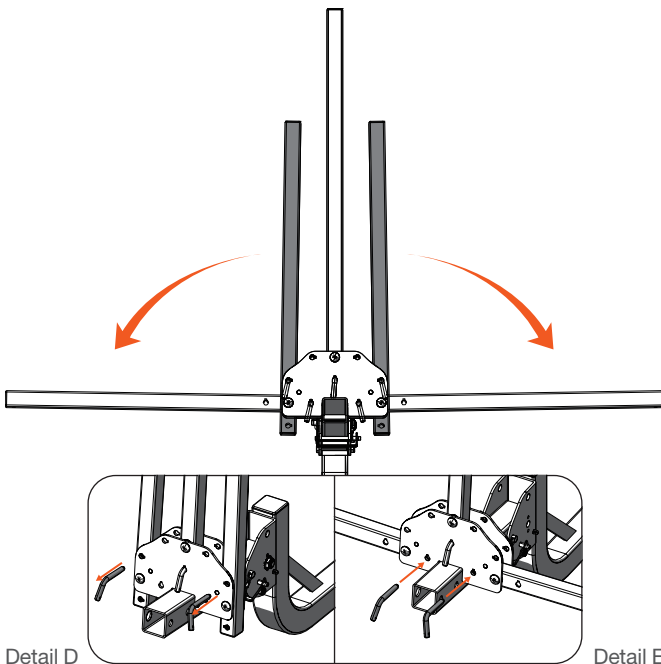

Figure 2
Remove the outer arm pins & clips from main body rack (1). See Figure 2, Detail D. Drop the side arms down to until they lay flat, see Figure 2. Re-insert the pins & clips to secure in place, see Detail E.